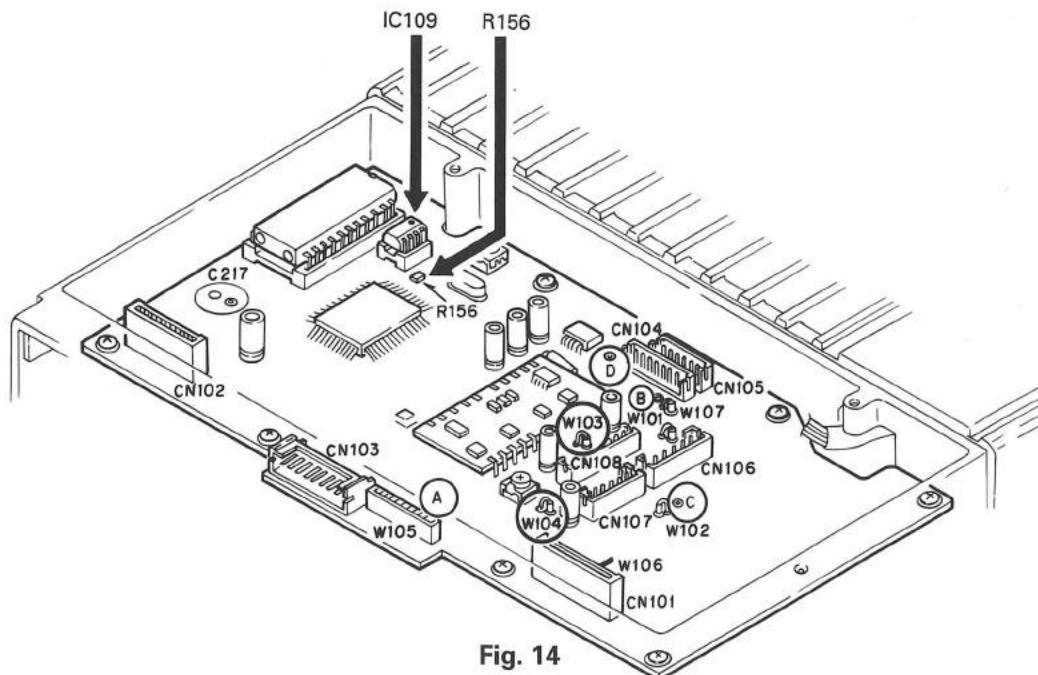

Fig. 14
2) Remove IC109 from the control unit (X57-3750 A/3) and install the KCH-5 EEPROM (X24C16PI) by soldering. (Fig. 14)
- 3) Remove R156 (R92-0670-05) of the control unit. (Fig. 14)
- 2) Remove IC109 (X24C04PI) of the control unit (X57-3750 A/3) from the socket, and install the KCH-5 (X24C16PI). (Fig. 14)